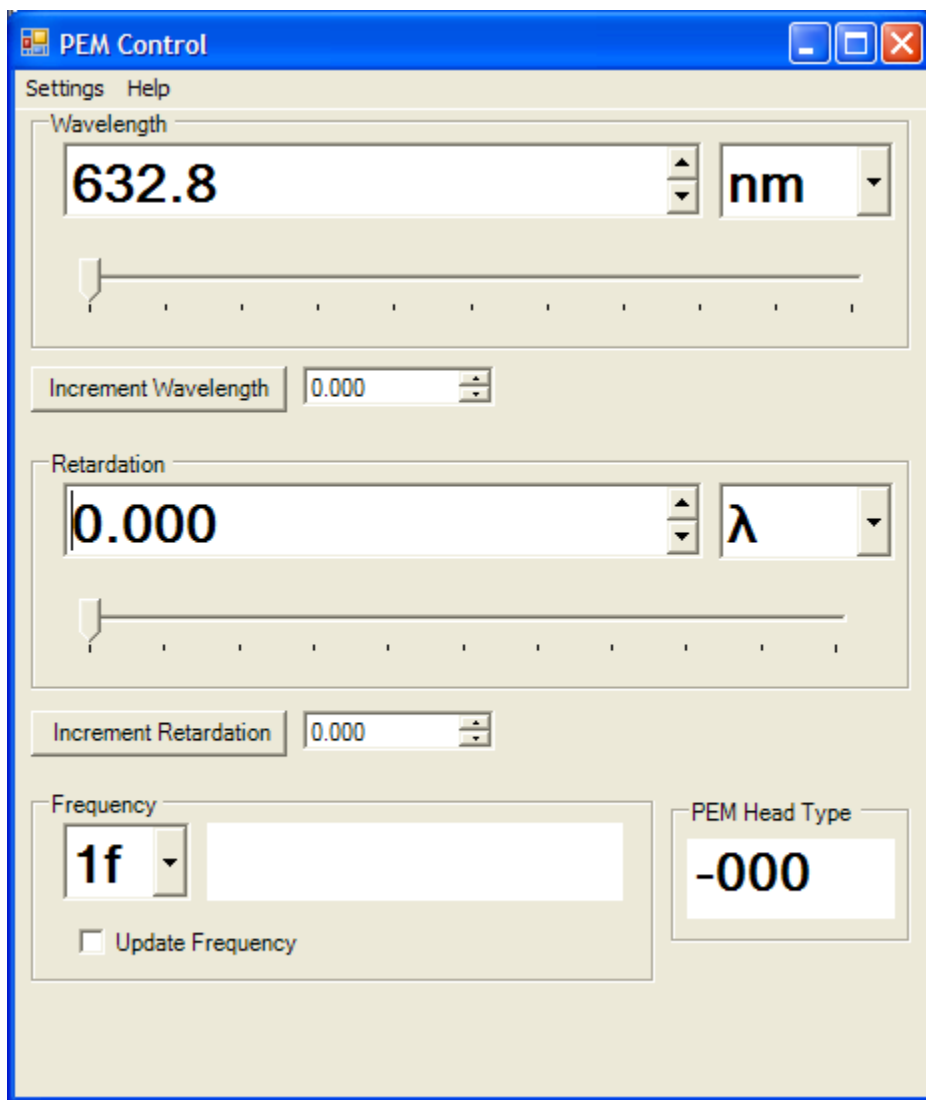

Figure 7.2 Main Display Screen
1. Click in the PEM Head Type display field. The Advanced setting dialog box will appear. See figure 7.2. Click on the PEM Head Type down ▼ arrow and select the correct software part number. See 'Setup of PEM-100 Controller for use with PEM Control Software' on page 41. Click on the **X** to close the dialog box.